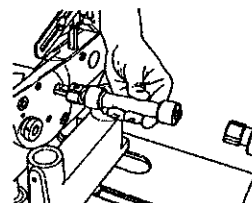

Fig.F-2
5. Place the power coupler (71) onto the Belt Sander's drive shaft hub (31), as in Fig.F-2.